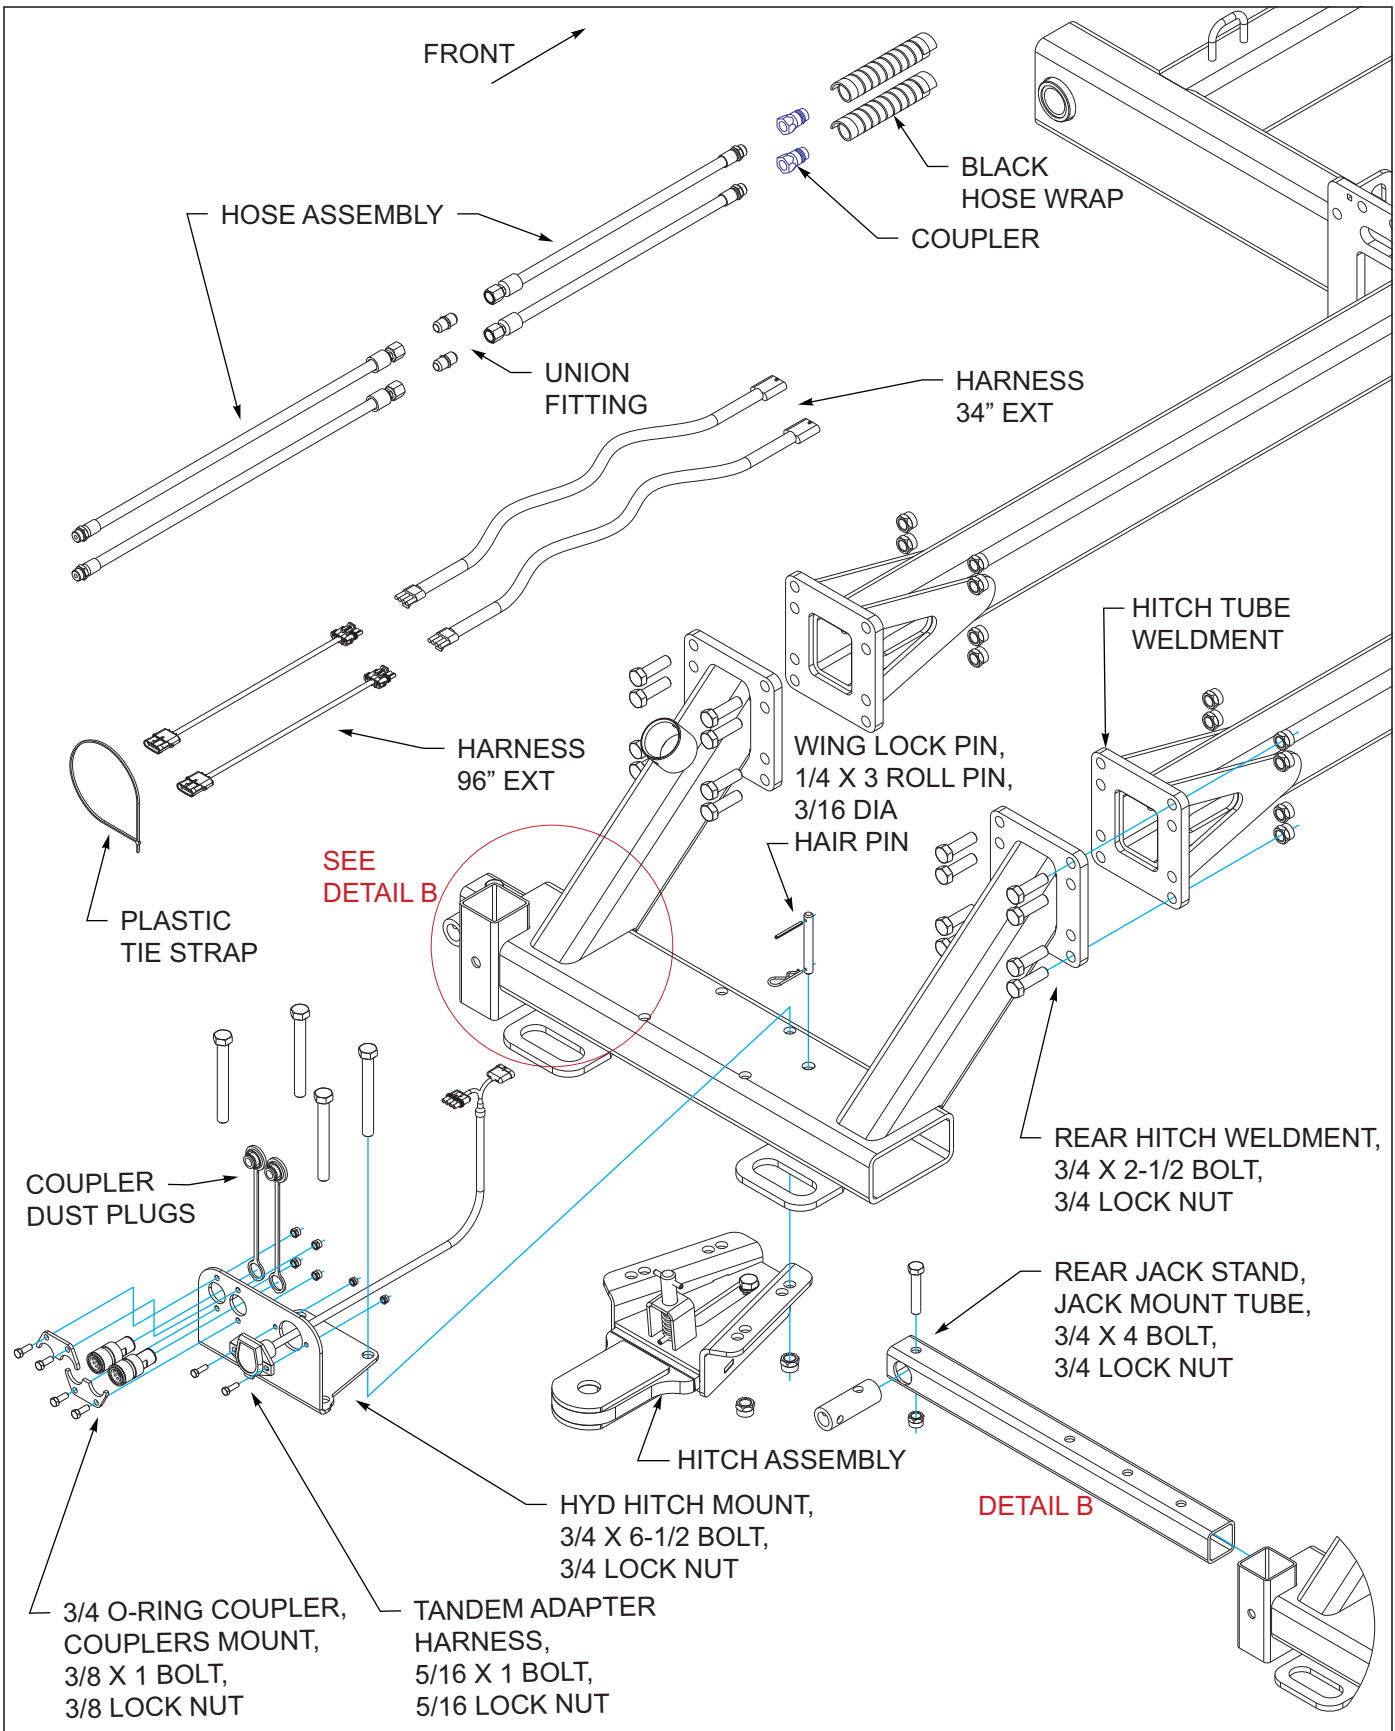

Figure 3-38: Rear Tow Hitch Installation (2 of 2)
5. Attach rear hitch weldment to rear of hitch tube weldments using 3/4 x 2-1/2 bolts and 3/4 lock nuts **See Figures 3-38.**